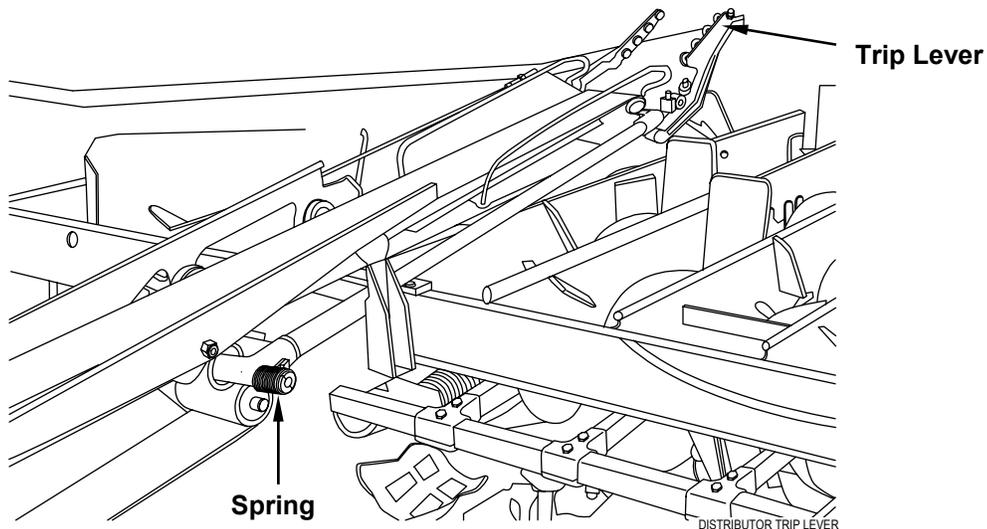

Figure 2-13
2. As a pin transfers from the distributor belt onto the trip lever, the weight of the pin causes the lever to pivot downward as the pin is deposited in the bin. Afterwards, the trip lever returns to the up position from the force of a spring located at the rear of the carriage tube (see Figure 2-13). This tripping and resetting action actuates the trip rod allowing the distributor to index to the next bin position. The spring tension is factory set for 1/2 turn. Too much spring tension would prevent the trip lever from deflecting causing the distributor to fail to index.